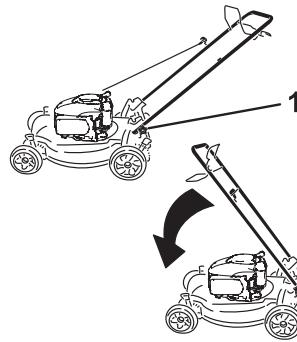

Figure 29
1. Handle knob (2)
2. Move the handle forward as shown in Figure 29.
1. Loosen the handle knobs until you can move the handle freely (Figure 29).